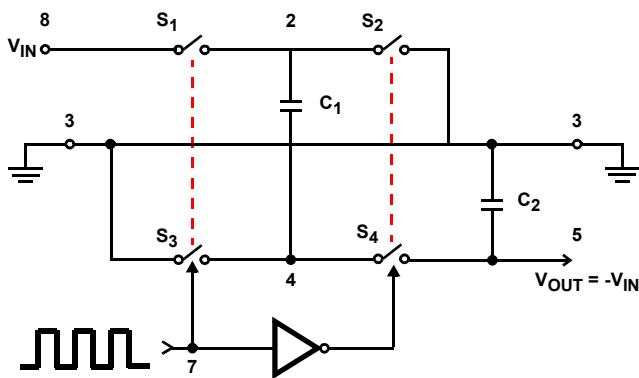
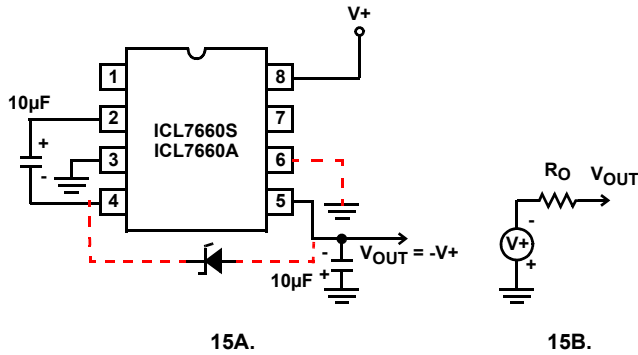
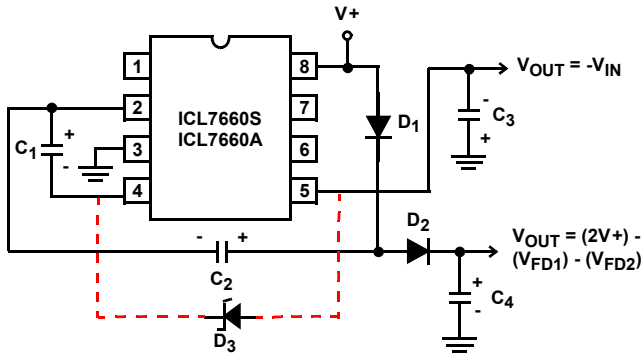
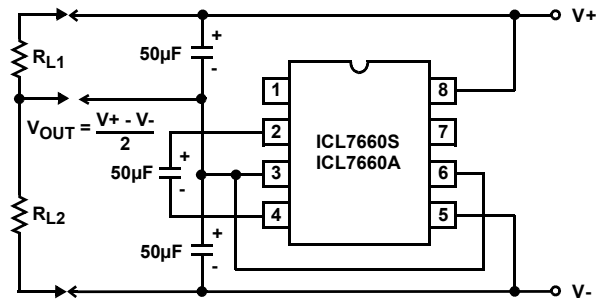

FIGURE 14. IDEALIZED NEGATIVE VOLTAGE CONVERTER
FIGURE 15. SIMPLE NEGATIVE CONVERTER AND ITS OUTPUT EQUIVALENT
FIGURE 19. COMBINED NEGATIVE VOLTAGE CONVERTER AND POSITIVE DOUBLER
FIGURE 20. SPLITTING A SUPPLY IN HALF
The ICL7660S and ICL7660A contain all the necessary circuitry to complete a negative voltage converter, with the exception of two external capacitors, which may be inexpensive 10 $\mu$ F polarized electrolytic types. The mode of operation of the device may best be understood by considering Figure 14, which shows an idealized negative voltage converter. Capacitor  $C_1$  is charged to a voltage,  $V_+$ , for the half cycle, when switches  $S_1$  and  $S_3$  are closed. (Note: Switches  $S_2$  and  $S_4$  are open during this half cycle). During the second half cycle of operation, switches  $S_2$  and  $S_4$  are closed, with  $S_1$  and  $S_3$  open, thereby shifting capacitor  $C_1$  to  $C_2$  such that the voltage on  $C_2$  is exactly  $V_+$ , assuming ideal switches and no load on  $C_2$ . The ICL7660S and ICL7660A approach this ideal situation more closely than existing non-mechanical circuits.
In the ICL7660S and ICL7660A, the four switches of Figure 14 are MOS power switches;  $S_1$  is a P-Channel device; and  $S_2$ ,  $S_3$  and  $S_4$  are N-Channel devices. The main difficulty with this approach is that in integrating the switches, the substrates of  $S_3$  and  $S_4$  must always remain reverse biased with respect to their sources, but not so much as to degrade their "ON" resistances. In addition, at circuit start-up, and under output short circuit conditions ( $V_{OUT} = V_+$ ), the output voltage must be sensed and the substrate bias adjusted accordingly. Failure to accomplish this would result in high power losses and probable device latch-up.
where  $V_1$  and  $V_2$  are the voltages on  $C_1$  during the pump and transfer cycles. If the impedances of  $C_1$  and  $C_2$  are relatively high at the pump frequency (see Figure 14) compared to the value of  $R_L$ , there will be a substantial difference in the voltages,  $V_1$  and  $V_2$ . Therefore it is not only desirable to make  $C_2$  as large as possible to eliminate output voltage ripple, but also to employ a correspondingly large value for  $C_1$  in order to achieve maximum efficiency of operation.
The majority of applications will undoubtedly utilize the ICL7660S and ICL7660A for generation of negative supply voltages. Figure 15 shows typical connections to provide a negative supply where a positive supply of +1.5V to +12V is available. Keep in mind that pin 6 (LV) is tied to the supply negative (GND) for supply voltage below 3.5V.
The output characteristics of the circuit in Figure 15 can be approximated by an ideal voltage source in series with a resistance as shown in Figure 15B. The voltage source has a value of  $-(V_+)$ . The output impedance ( $R_O$ ) is a function of the ON resistance of the internal MOS switches (shown in Figure 14), the switching frequency, the value of  $C_1$  and  $C_2$ , and the ESR (equivalent series resistance) of  $C_1$  and  $C_2$ . A good first order approximation for  $R_O$  is shown in Equation 2:
Figure 19 combines the functions shown in Figure 15 and Figure 18 to provide negative voltage conversion and positive voltage doubling simultaneously. This approach would be suitable, for example, for generating +9V and -5V from an existing +5V supply. In this instance, capacitors  $C_1$  and  $C_3$  perform the pump and reservoir functions, respectively, for negative voltage generation, while capacitors  $C_2$  and  $C_4$  are pump and reservoir, respectively, for the doubled positive voltage. There is a penalty in this configuration which combines both functions, however, in that the source impedances of the generated supplies will be somewhat higher, due to the finite impedance of the common charge pump driver at pin 2 of the device.
The bidirectional characteristics can also be used to split a high supply in half, as shown in Figure 20. The combined load will be evenly shared between the two sides, and a high value resistor to the LV pin ensures start-up. Because the switches share the load in parallel, the output impedance is much lower than in the standard circuits, and higher currents can be drawn from the device. By using this circuit, and then the circuit of Figure 15, +15V can be converted, via +7.5 and -7.5, to a nominal -15V, although with rather high series output resistance (~250Ω).